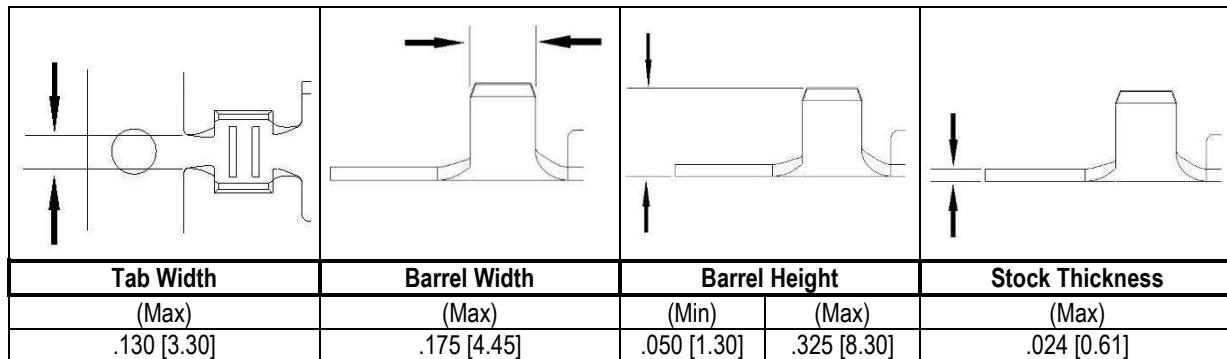

Figure 2
- ♦ The tool adjustment specifications are presented in Figure 2.